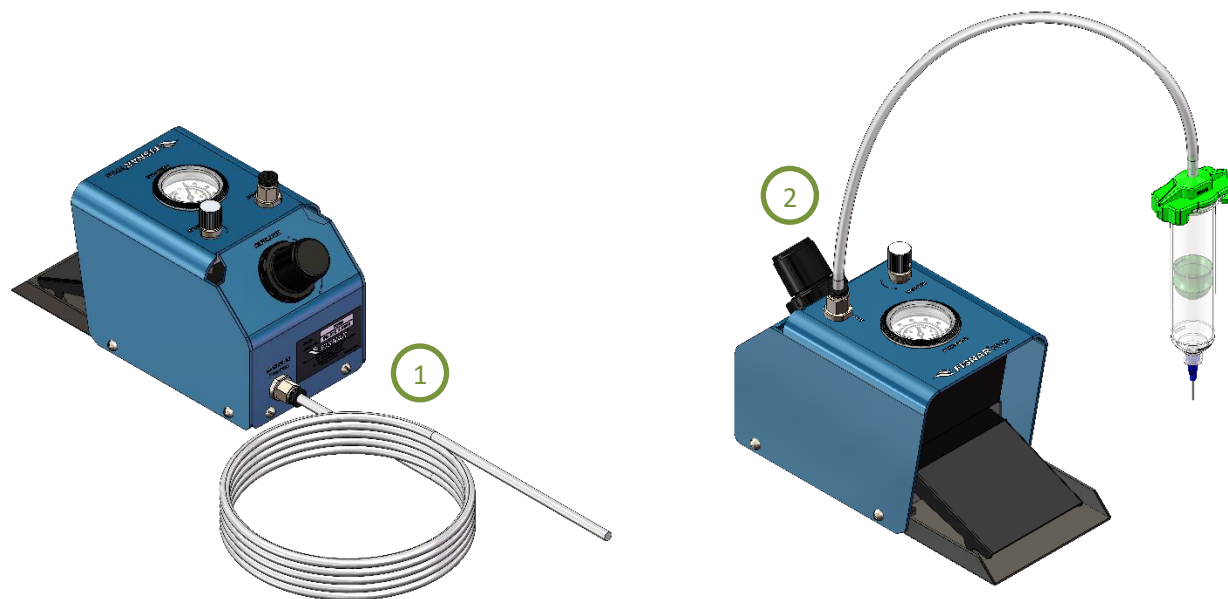

FIG. 3: Front and Back Views
Connect air hose (1) from compressed air 70-100 psi (5-7 bar) to the air inlet port on the back of the machine. See FIG. 3 above.
Connect the syringe barrel adapter hose to the “Air Out” port (2) on the top of the machine. See FIG. 3. Standard for use with Fisnar adapter head assemblies supplied with green color push to connect stem fitting (5606038).